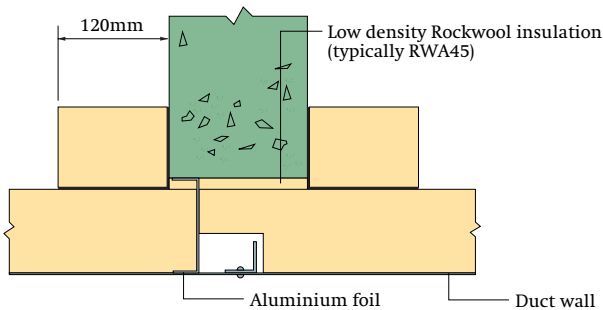

Figure 8 Steel angle frame support to duct at penetration mid point
- a  $30 \times 30 \times 2\text{mm}$  mild steel angle frame fixed to the duct at the penetration mid point. Steel rivets should be used at 300mm maximum centres (Figure 8),